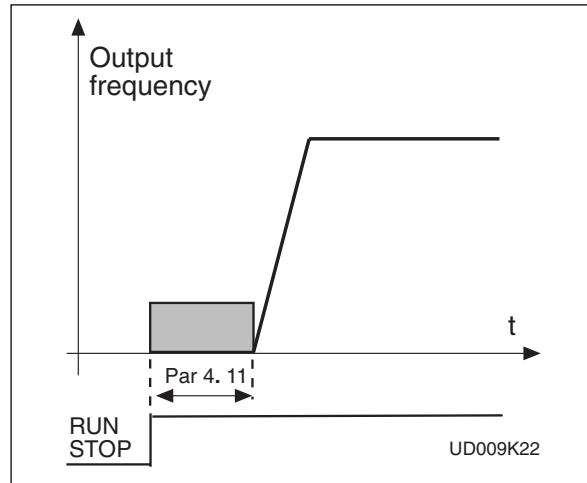

Figure 6-16 DC-braking time at start
- >0** DC-brake is activated when the start command is given and this parameter defines the time before the brake is released. After the brake is released, the output frequency increases according to the set start function parameter 4.6 and acceleration parameters (1.3, 4.1 or 4.2, 4.3), see figure 6-16.